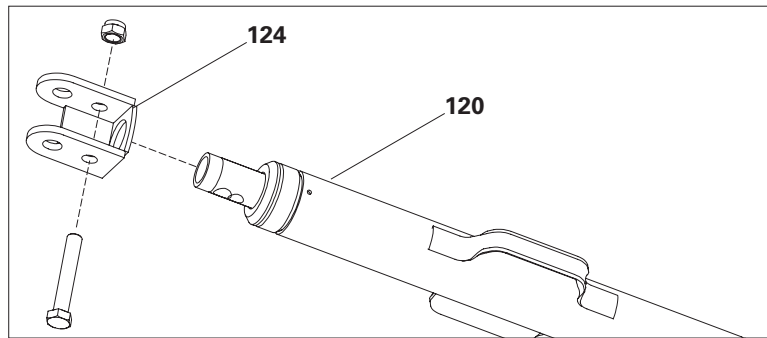

Fig. D1.11
1. Mount the forkhead adapter (**124**) on the building side of the heavy-duty spindle (**120**) using the bolt and nut provided. (Fig. D1.11)